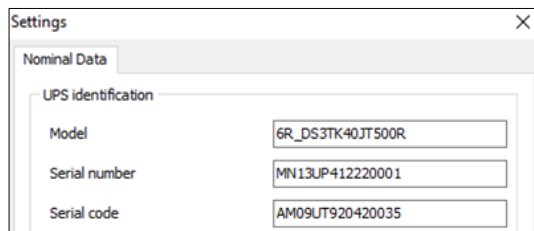
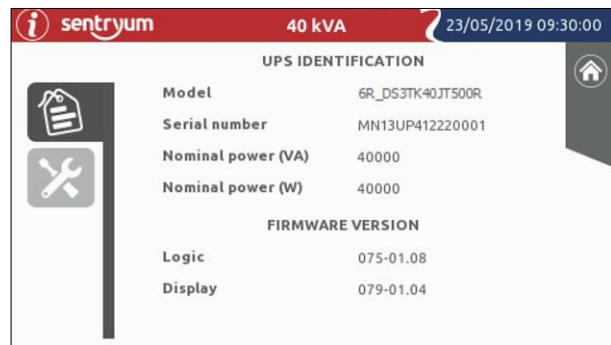

Fig. 111
Fig. 112
- Check on the UPS info page  of the display panel the changes made on chap. 12.2.2. The **Model** on the UPS Identification must contain the new part number set previously (see Fig. 112). The nominal power of the UPS must be compatible with the Model.
- Check that the correct **Serial number** is shown on the “Settings” of S3Config (Fig. 111) and on the UPS Info page of the display (Fig. 112):